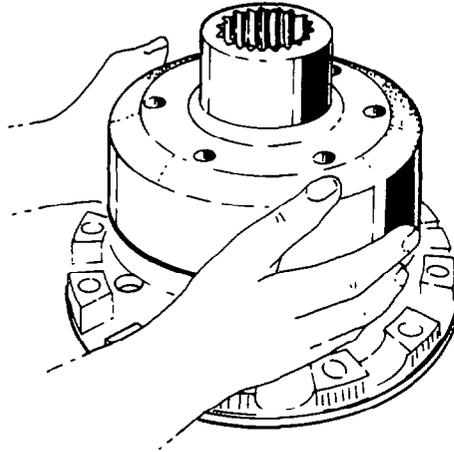

Fig. 331 — Installing Outer Cam
- g. After installing the inner cam push all the wedges inward so that they all make contact with the inner cam, then install the outer cam over the wedges (see fig. 331). Do not try to force the outer cam over the wedges.